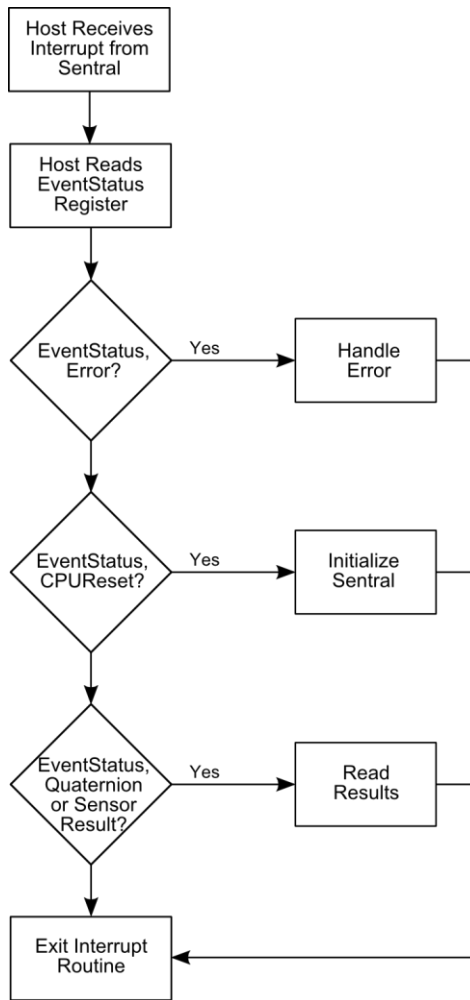

Figure 5-3: SENtral Normal Operation Flow
- d) Interpret and act on the EventStatus register in the priority shown in Figure 5-3. If bit [1], the Error bit, is ‘1’, see Section 5.3.1. If bit [0], the CPUReset bit, is ‘1’, see Section 5.3.2. If bits [2], [3], [4], or [5], the Results bits, are ‘1’, see Section 5.3.1.
**Note that reading the EventStatus register clears it.** It is possible for more than one bit position to be ‘1’ in the EventStatus register, especially if the host does not always read the EventStatus register after receiving an interrupt. Similarly, if multiple bits are set to ‘1’ in the EventStatus register, once the register is read all the bits will be set to ‘0’. For this reason the EventStatus register should be processed in the priority shown in Figure 5-3, as information will be cleared for events that are not handled.